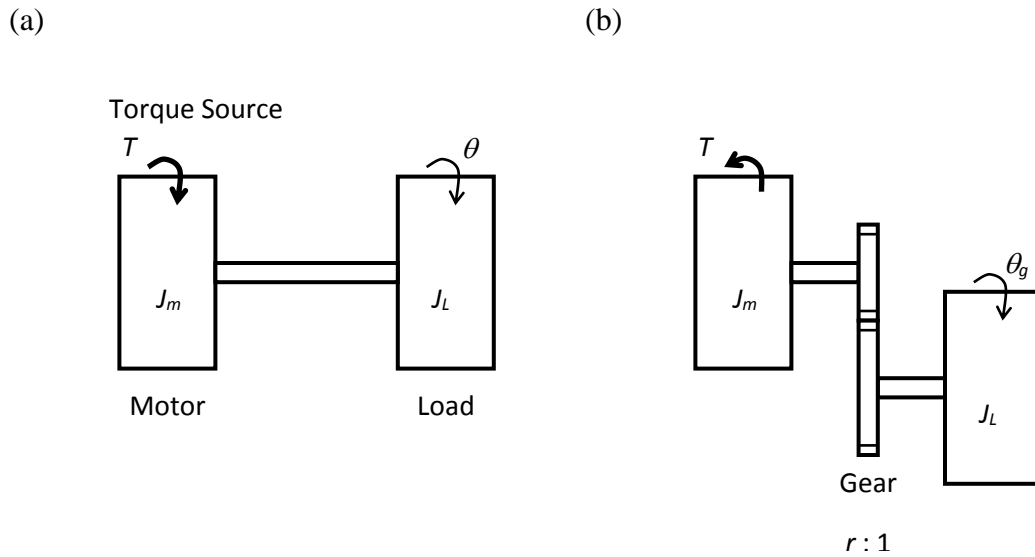

Figure 1: An Inertial Load Driven by a Motor
- (ii) Consider the mechanical system where a torque source (motor) of torque T and moment of inertia J_m is used to drive a purely inertial load of moment of inertia J_L as shown in Figure 1(a). What is the resulting angular acceleration $\ddot{\theta}$ of the system? Neglect the flexibility of the connecting shaft.
Now suppose that the load is connected to the same torque source through an ideal (loss free) gear of motor-to-load speed ratio $r : 1$, as shown in Figure 1(b). What is the resulting acceleration $\ddot{\theta}_g$ of the load?